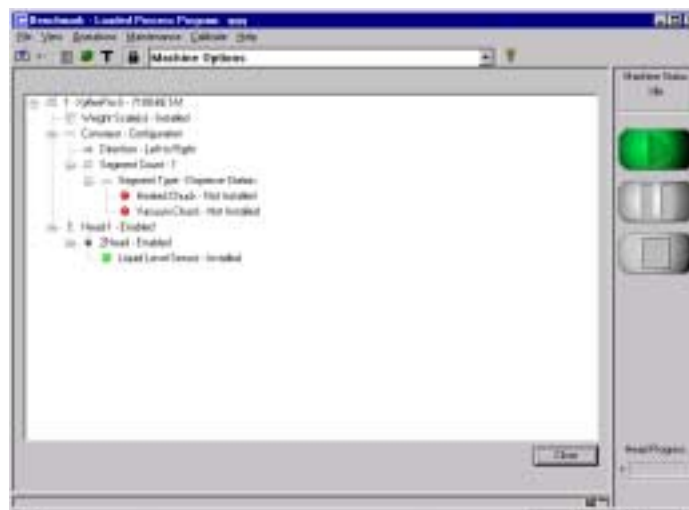

Figure 1-3
2. Select **M**achine Options from the drop down list. A list of installed machine options appears, see Figure 1-3.